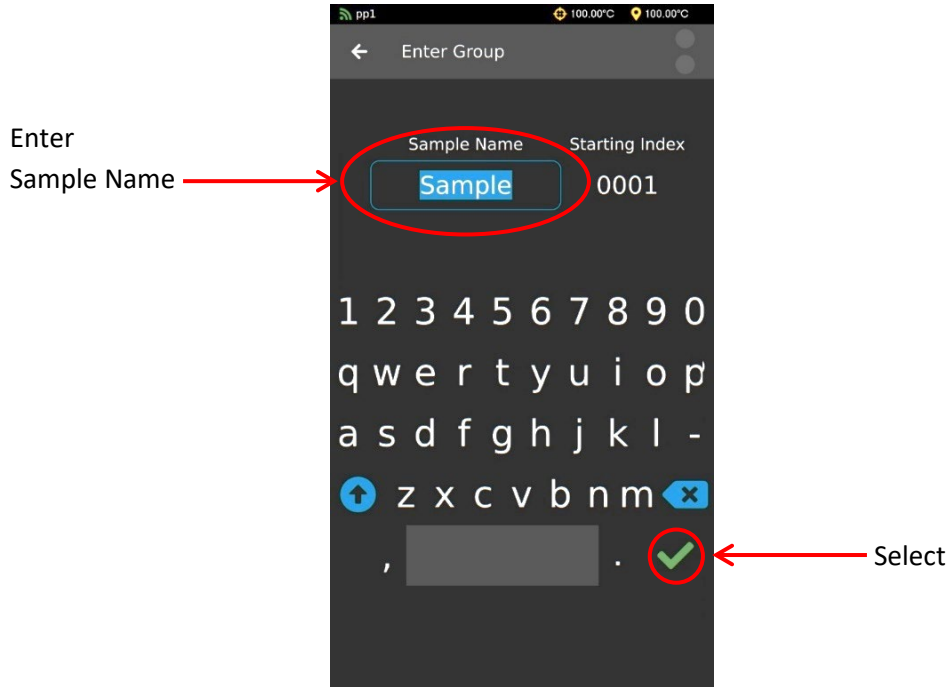

Figure 38: Sample Name
2. Once the Sample Group has been added, enter the **Sample Name**. When finished, move to the next screen by selecting the **Green Checkmark**. See Figure 38.